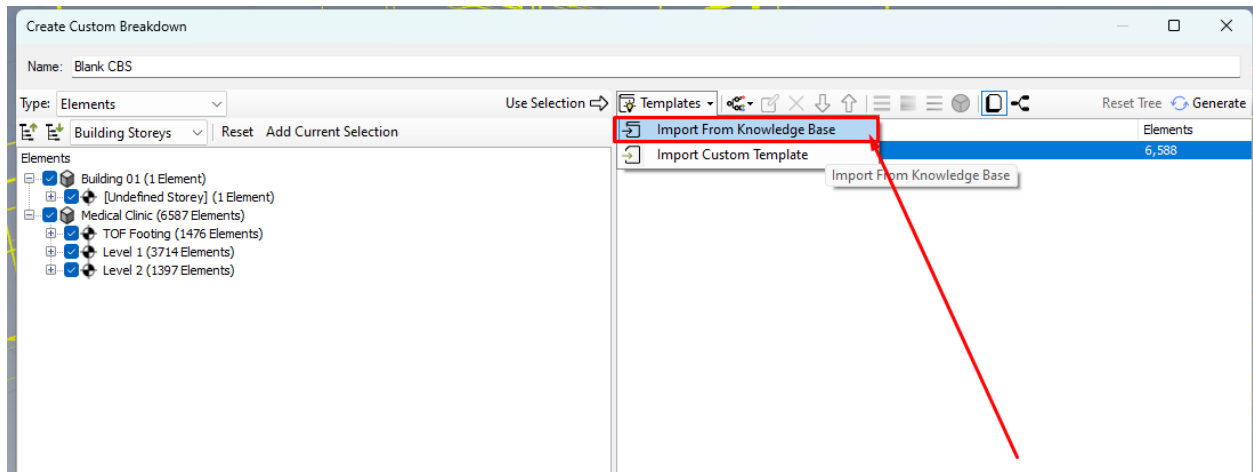

Figure 3 - Custom Breakdown 2/2
- **MinPercentageDifference** - (Default 25) Used when evaluating the final target triangle count to be passed to the algorithm. See Figure 3.
- **MaxPercentageDifference** - (Default 90) Used when evaluating the final target triangle count to be passed to the algorithm. See Figure 3.